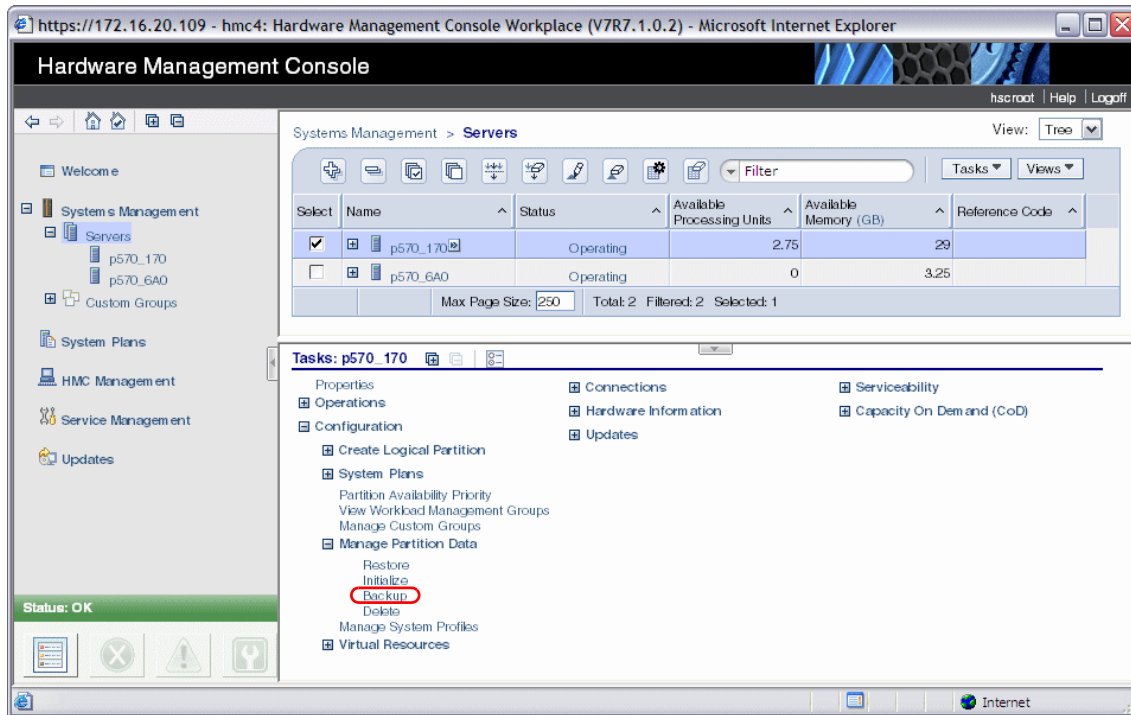

Figure 13-13 Backing up the profile definitions
15. It is best practice to back up the profile definition in case you want to restore it later. Activating the backup is shown in Figure 13-13. A menu is opened where you specify the name of the backup. Click **OK** to complete.